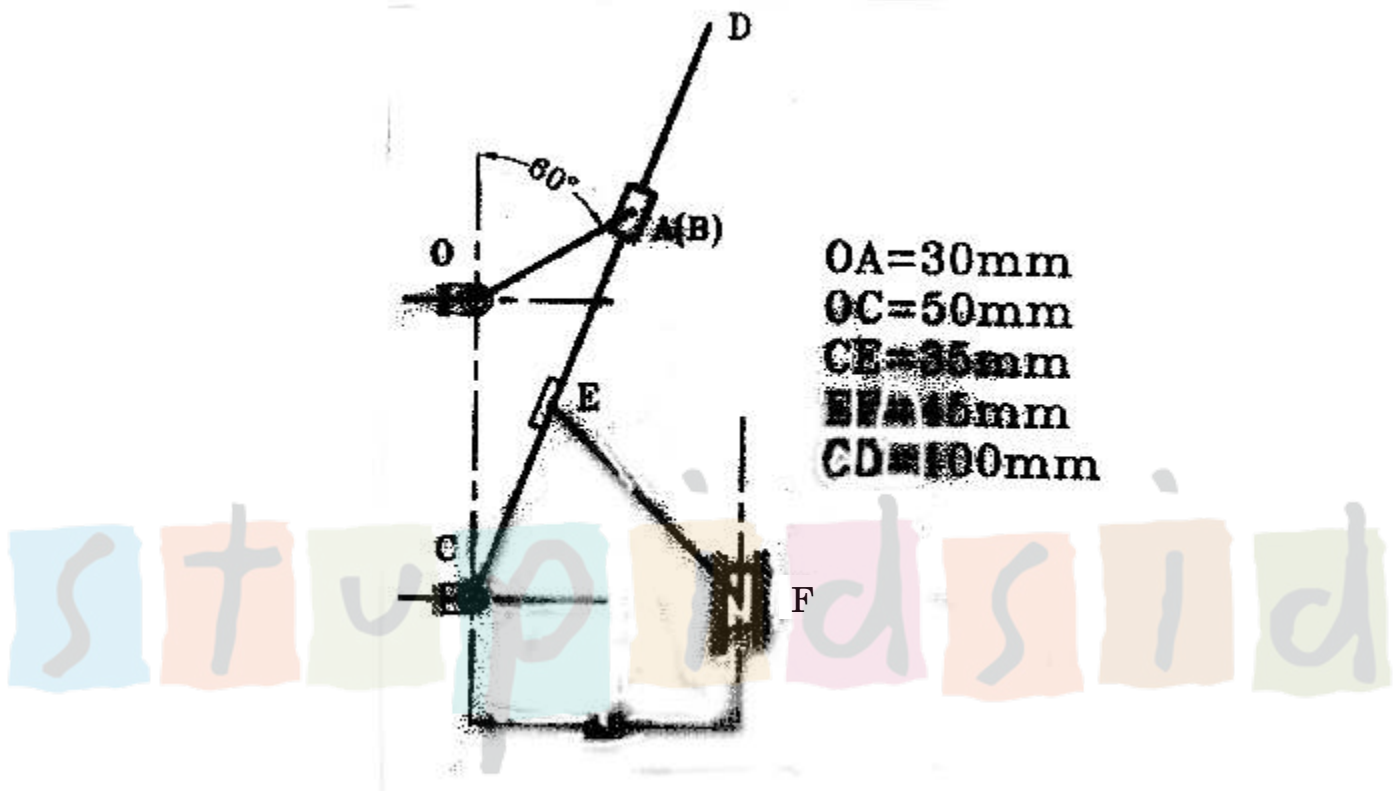

Fig. 5
5. Fig. 5 shows a mechanism in which crank OA is rotating clockwise at 30 rad/s. Lever CD drives slider F through coupler EF as shown. At the instant shown, find out the acceleration of slider F as well as the angular acceleration of Link EF.